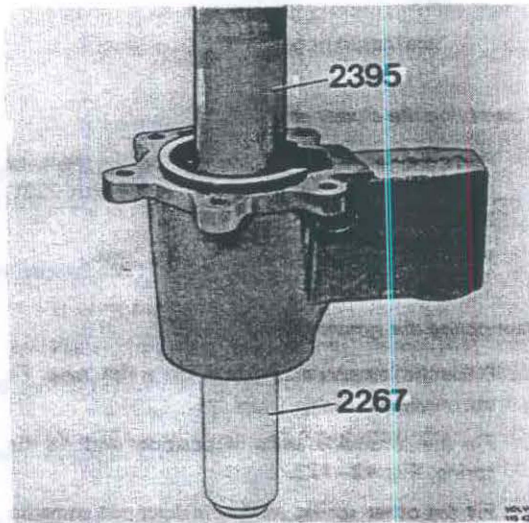

Fig. 43-176. Pressing in output shaft
2. Press in the output shaft. Use 2395 and place 2267 as a counterhold under the bearing, Fig. 43-176.